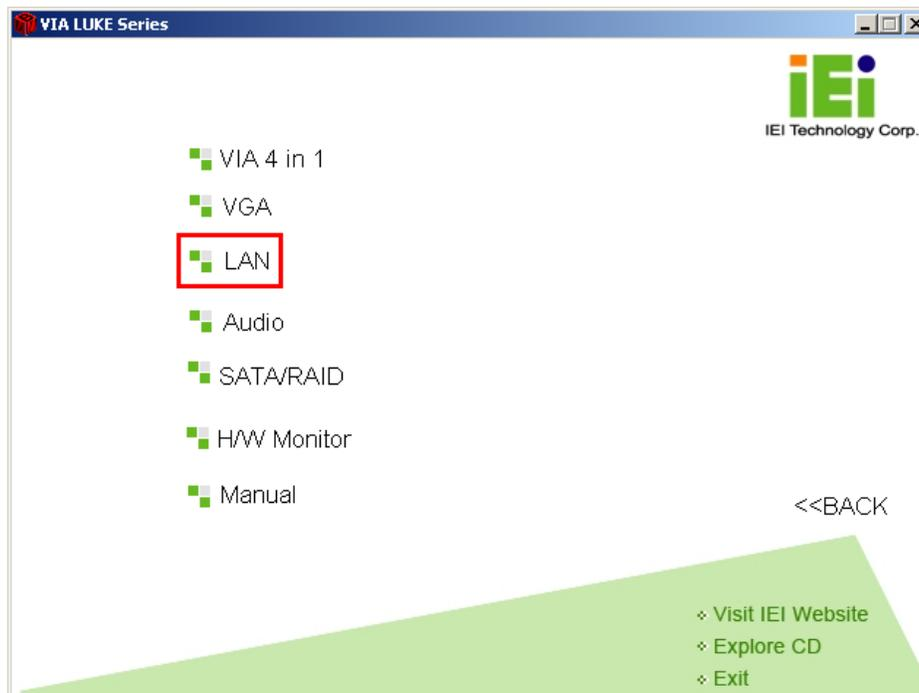

Figure 6-23: LAN Driver Menu Option
Step 3: Select "LAN" in the driver selection screen. See **Figure 6-23**.